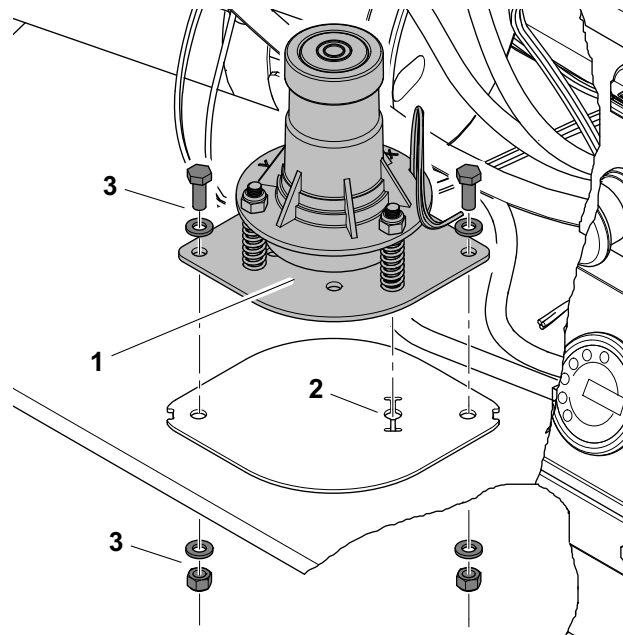

Figure 3-16. Tilt Sensor Installation
2. When mounting the tilt sensor back into the base frame, align the mounting pin on the bottom of the sensor with the hole in the mounting plate on the base frame (item 2 - Figure 3-16.).